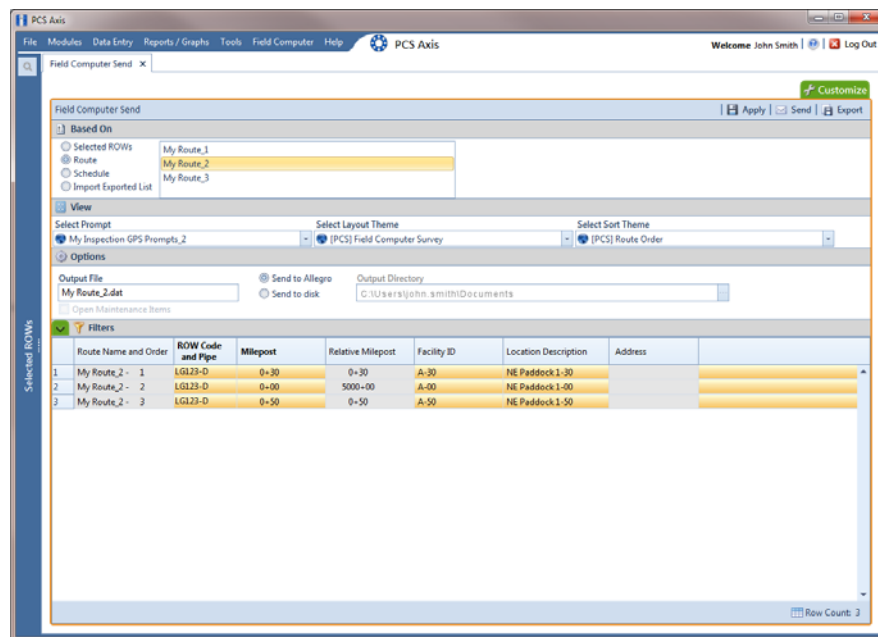

Figure 13-5. Field Computer Send
- 4 Click the **Route** option and then select a route in the selection box. The following figure shows *My Route_2* has been selected (Figure 13-5).
- 6 Select a prompt, layout, and sorting theme as follows (Figure 13-5, page 556):
- a Click the  **Filters** tab to open the *Filters* panel (Figure 13-5, page 556).